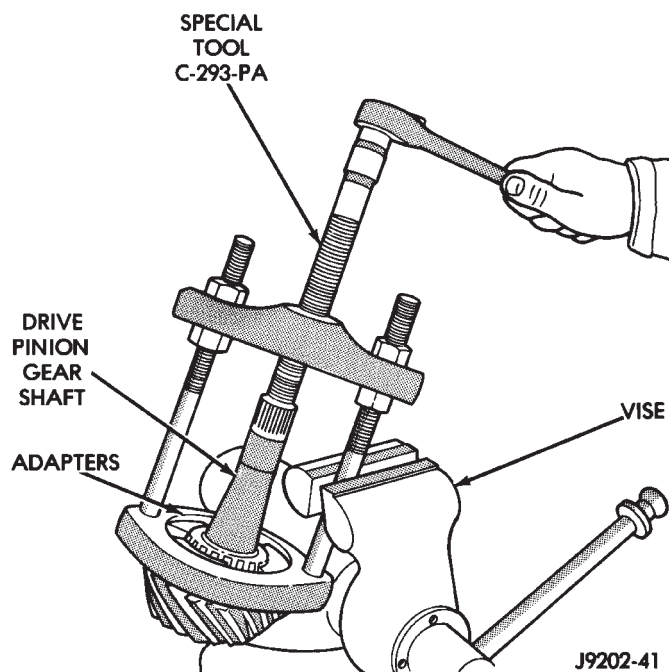

Fig. 38 Inner Bearing Removal
(8) Remove the inner bearing from the pinion with Puller C-293-PA and Adapter C-293-39 (Fig. 38).